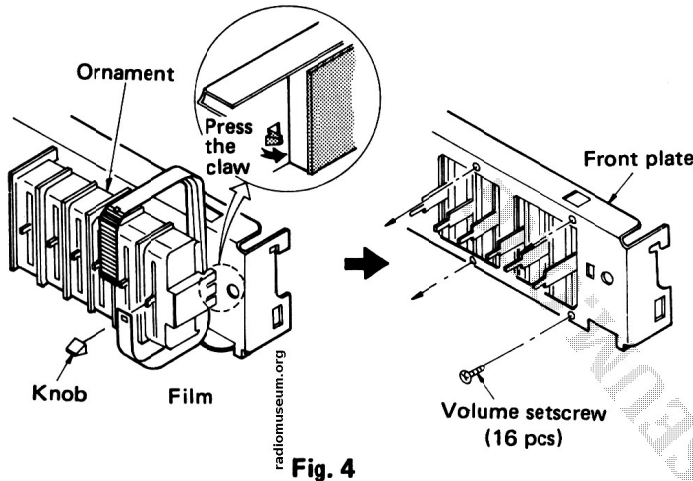

Fig. 4
5. Pull out the 24 knobs for the right and left channels, and then remove the film. (Fig. 4)
6. Push the claw of the ornament from inside as in Fig. 4 to remove the ornament.